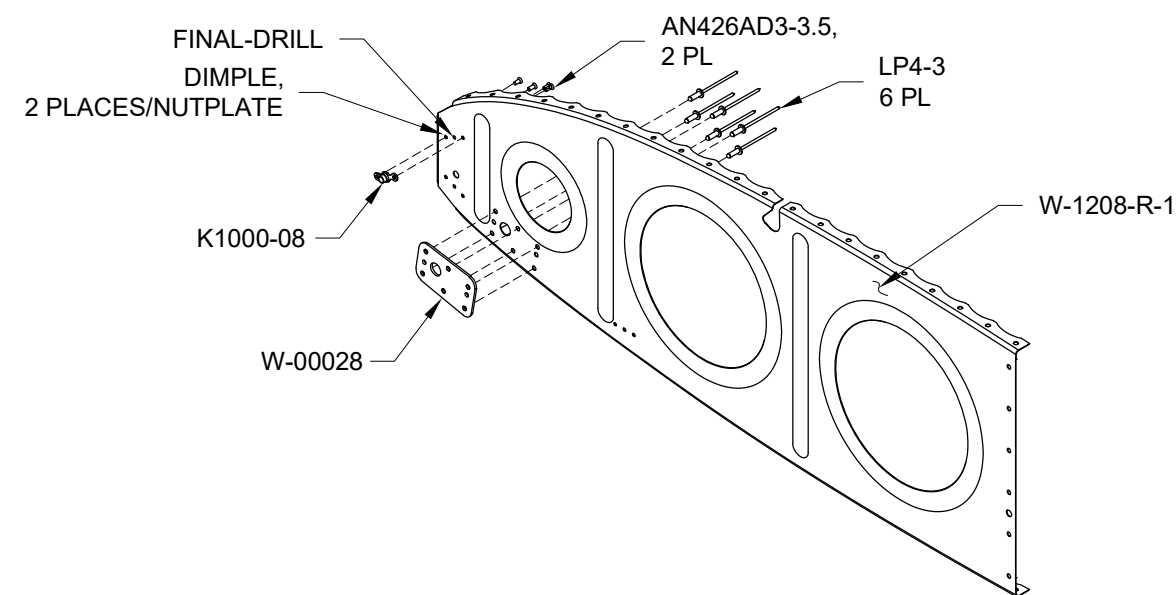

FIGURE 4: ADDING THE NUTPLATE TO FWD AND AFT TRIMMED NOSE RIBS
Step 9: Select one each of the W-1208-L-1 Nose Ribs and W-1208-R-1 Nose Ribs with the aft and forward trimmed flanges. Dimple the rivet hole locations as shown in Figure 4. Final drill #19 the center nutplate hole as shown in Figure 4. Dimple then install the nutplate on each nose rib as shown in Figure 4.
Cleco and rivet the W-00028 Doubler Plate to the W-1208-L-1 Nose Rib and W-1208-R-1 Nose Rib with the hardware called out in Figure 4.